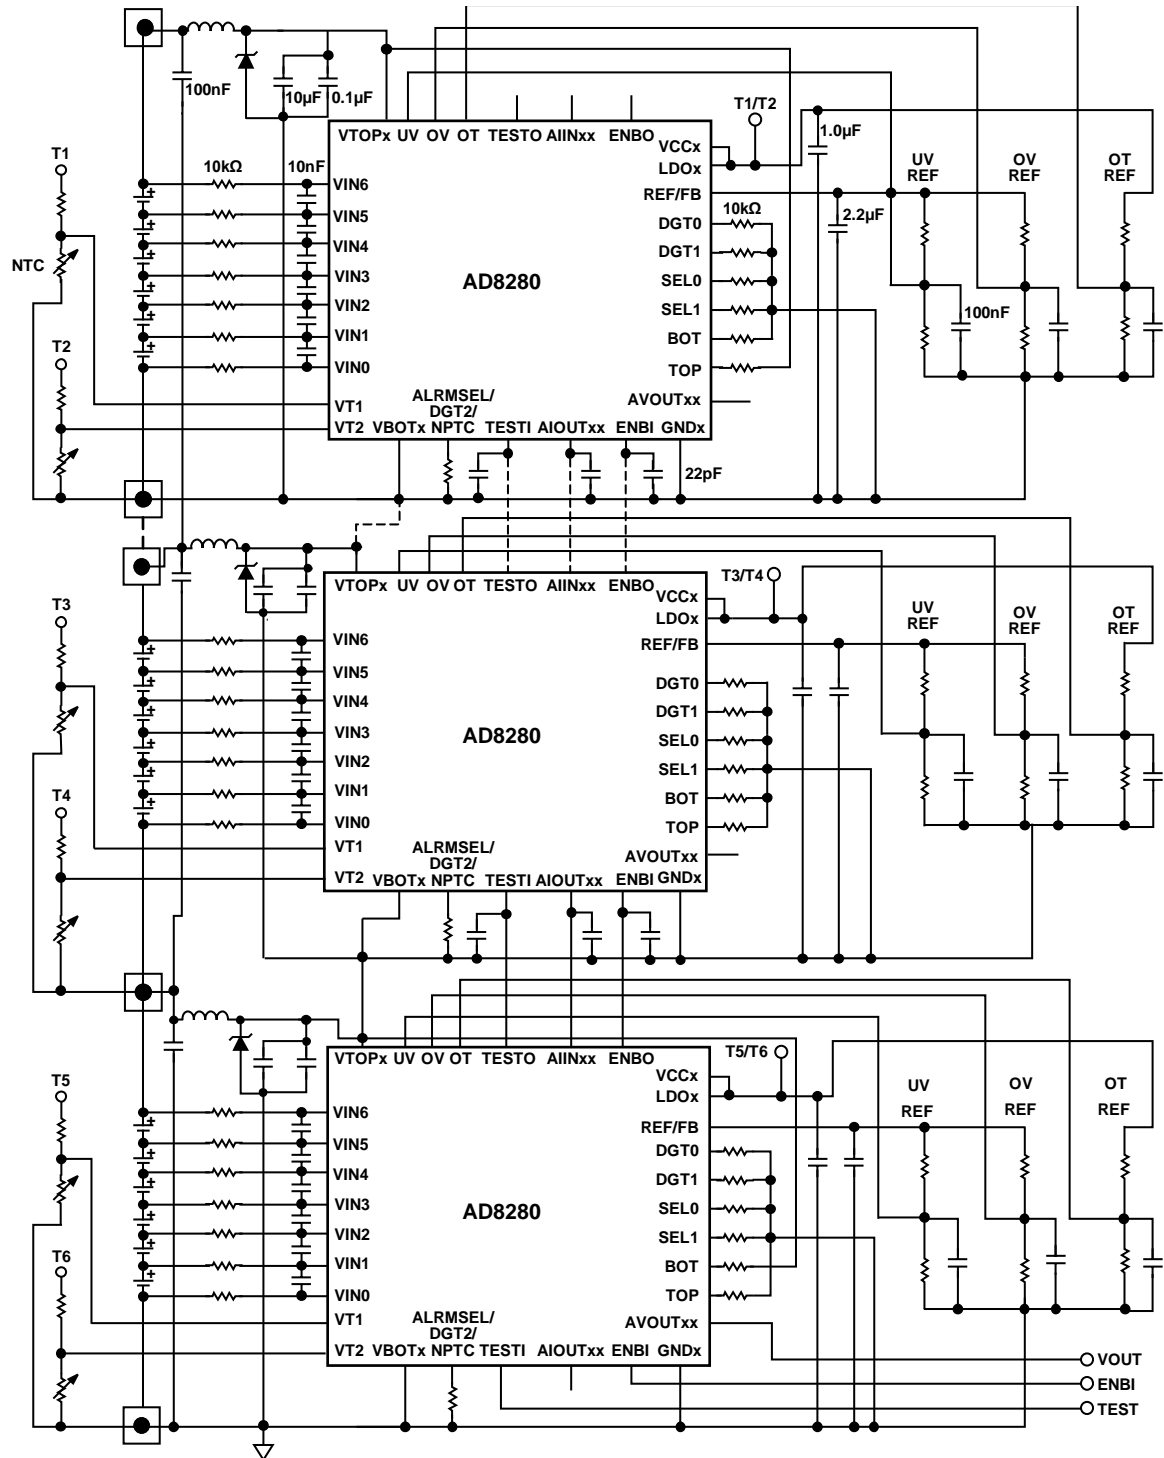

Figure 50. Typical Daisy-Chain Connections
Figure 50 shows the typical connections for configuring the device in a daisy chain.
To increase immunity to electromagnetic interference (EMI), use the following components and layout schemes (see Figure 50).
- Use ferrite beads on the VTOP lines as shown in Figure 50.